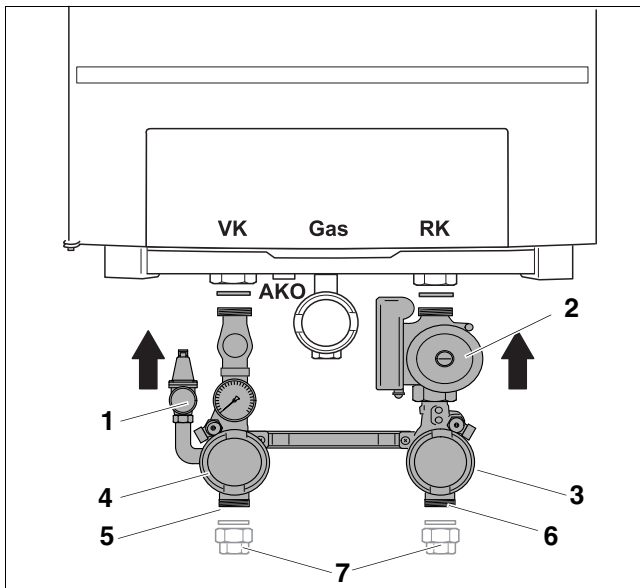

fig. 5 Installing the isolating valves
- Install the blue and red isolating valve (fig. 5, [3] and [4]) with the flat rubber seals in place on the Boiler Return and Supply connections.
- Connect the supply pipe to the red isolating valve (fig. 5, [5]) free of stress. If necessary, use the screw fitting (accessory, fig. 5, [7]).
- Connect the return pipe to the blue isolating valve (fig. 5, [6]) free of stress. If necessary, use the screw fitting (accessory, fig. 5, [7]).
A pressure relief valve must be installed on the pump group (see fig. 5, [1], page 7) to prevent the pressure in the heating system from becoming excessively high.